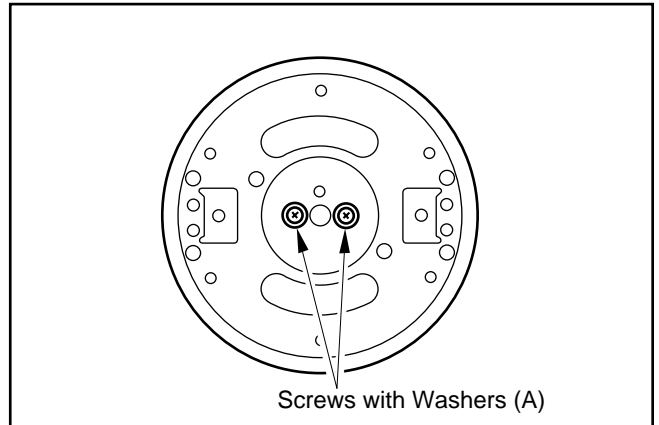

Fig. M2
1. Remove 2 Screws with Washers (A) and gently lift the Upper Cylinder Unit from the shaft, refer to Fig. M2.